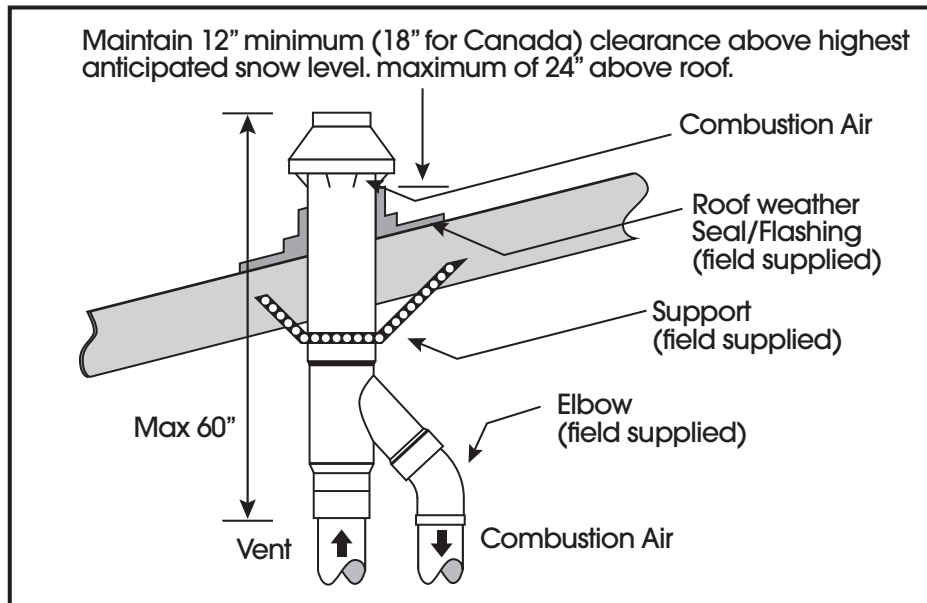

Figure 3—Typical Roof Install
7. Secure to roof (Figure 3) using metal strapping or equivalent support material (user supplied).
9. Cement furnace combustion air and vent pipes to Extended Concentric Vent. Refer to Figure 3 for proper pipe attachment.